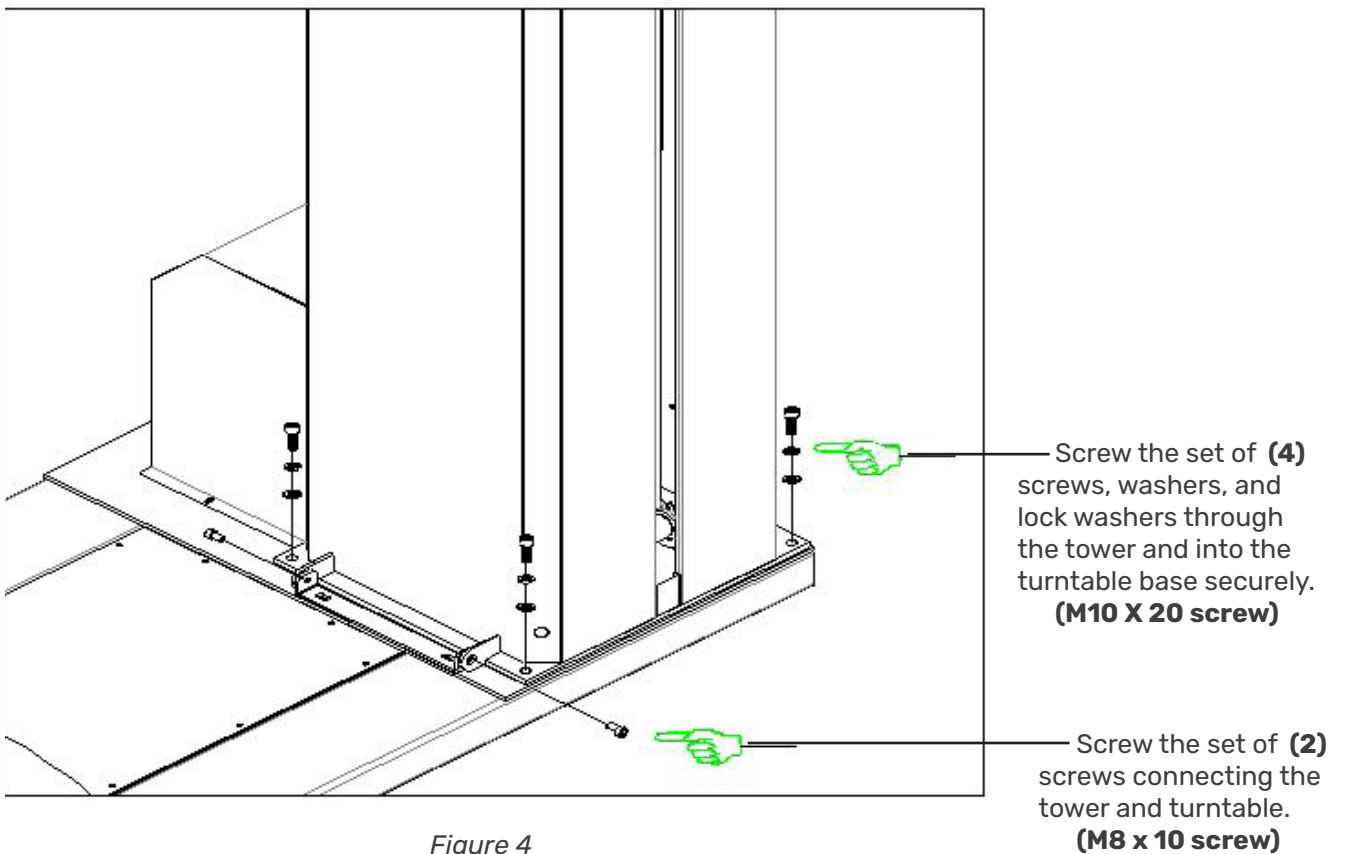

Figure 4
2. Tighten the screw between the tower and the turntable base. (See Figure 4)